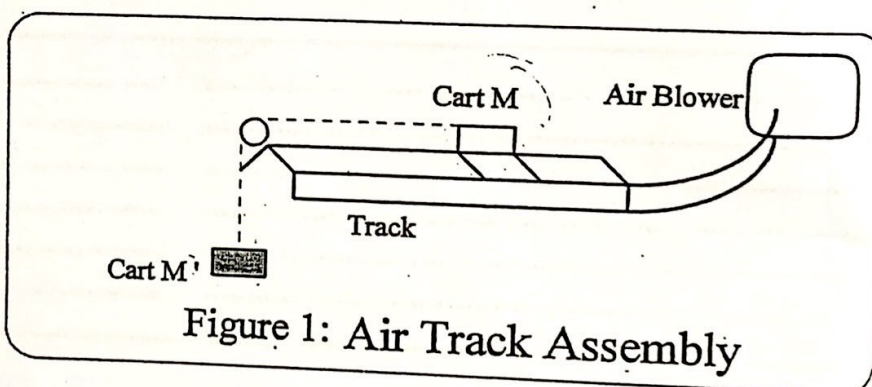

Figure 1: Air Track Assembly
Figure 1 is a schematic(drawing) of the apparatus. Objects traveling on the track are levitated (lifted) via the action of the air blower. Motion is caused by objects (M) pulled down by gravitational attraction. The figure does not show the timer circuits used to measure t and Δt .
For the arrangement shown in figure 1, the objects will experience a constant force and hence a constant acceleration.